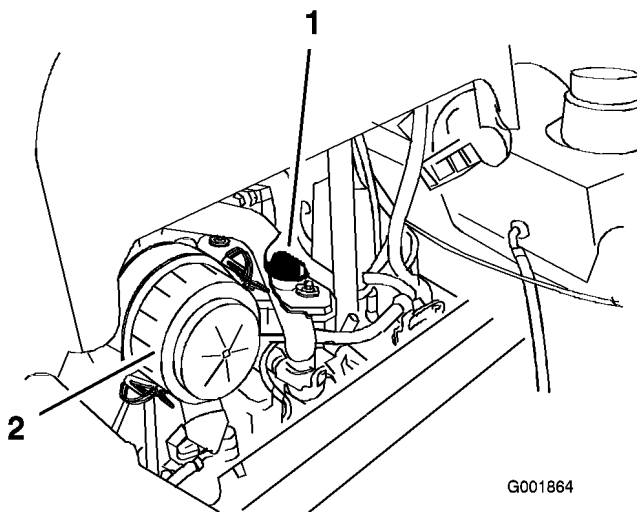

Figure 44
6. Remove the oil filler cap from the top of the engine (Figure 44). This will help the oil to drain.
2. Remove the oil filler cap and the dipstick (Figure 44).